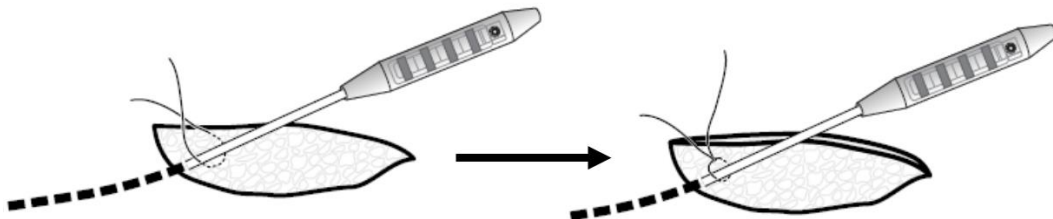

Figure 2. Securing the suture around the perc extension
4. Secure the preplaced suture in the tissue around the percutaneous extension closing the tunneling path (Figure 2).